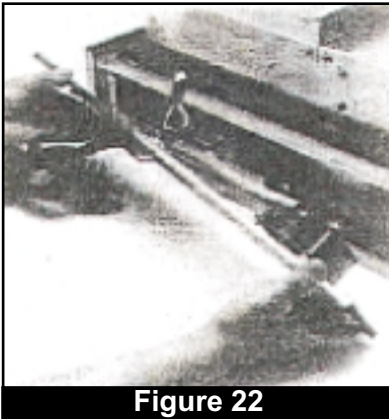

Figure 22
1. Remove the back panel of the module by removing the five phillips head screws and gently lifting out the back panel. Lay the panel on a clean work surface. (Fig. 22)